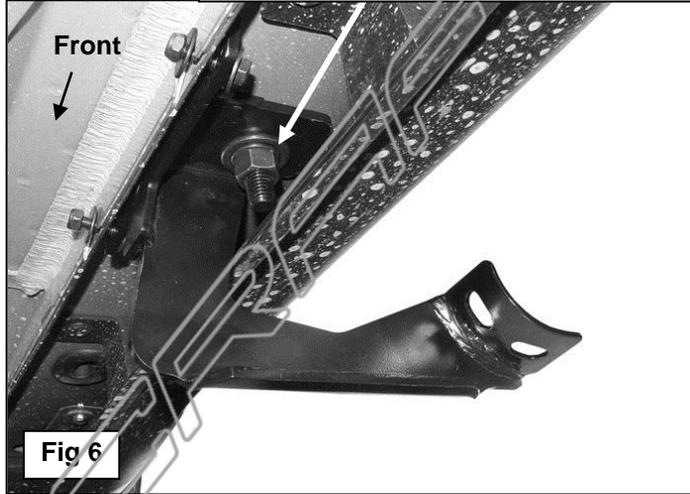

Fig 6
- Select (1) Mounting Bracket and hang it from the Bolt Plate with (1) 12mm Flat Washer and (1) 12mm Flange Nut, (**Figures 6 & 7**). Next, bolt the mounting plate on the Bracket to the front of the pinch weld with (2) 6mm x 25mm Hex Bolts, (4) 6mm Flat Washers and (2) 6mm Nylon Lock Nuts. Snug but do not fully tighten hardware at this time.